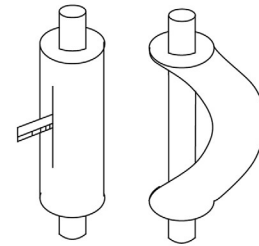

Fig. 15
- 4 If bending the hose directly risks causing cracks, first use a utility knife to cut through the insulation layer, see Fig. 15. Do not bend the hose until it is stripped. Once bending is complete, wrap the hose with a layer of insulation and secure it with adhesive tape.